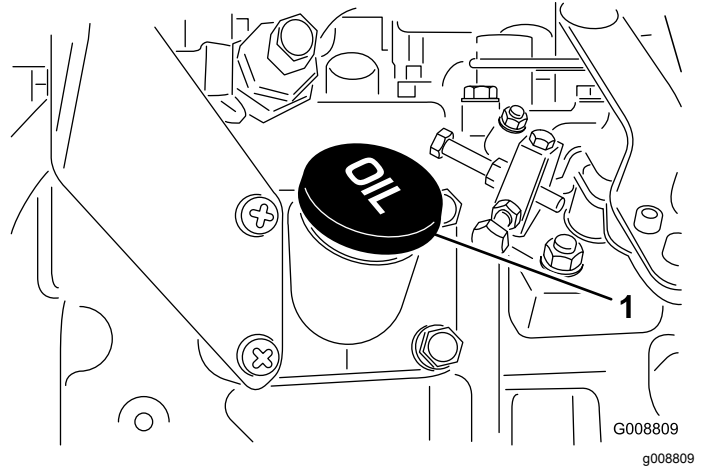

Figure 52
4. If the oil is below the safe range, remove the fill cap (Figure 52) and add oil until the level reaches the Full mark.